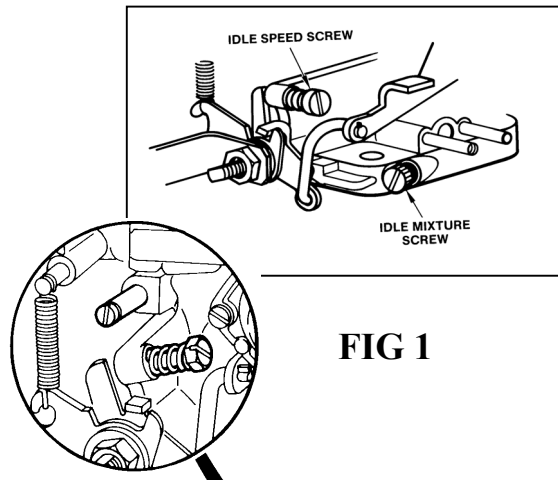

FIG 1
2. Set the Idle stop screw (speed screw see fig 1) by backing out the Idle speed screw until it is not in contact with the throttle stop lever. Cycle the linkage again to be sure that the linkage comes to close without any assistance. (Checking for linkage bind) Now bring screw back into contact with the lever and continue to open or screwing in 1 turn no more than 1 1/2 turns.
3. Set the mixture screw (see Fig 1) by first screwing in until the screw stops, bottoms out. **DO NOT FORCE OR BIND AS THIS WILL CAUSE DAMAGE TO THE SCREW AND IT'S SEAT IN THE BODY OF CARBURETOR.** Back out the screw 2 full turns.